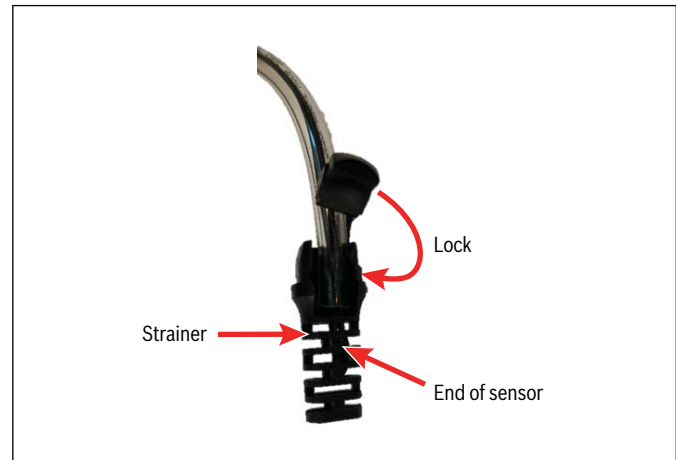

Figure 13 T4 Sensor Reinstallation
17. Make sure to reinstall T4 temperature sensor in Bottom Access Panel, refer to Figure 13. Lock sensor in strainer and push up through hole in panel.